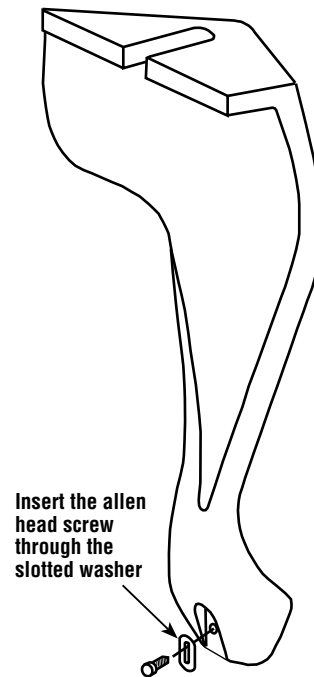

Figure 5
8. If it is necessary to level, secure or ground your stove, use the holes in the bottom of the leg for those applications. To level the stove on Olympic cast legs, locate the front leg that is not touching the hearth pad. Insert the allen head screw through the slotted washer (supplied with the legs) and into the threaded hole in the bottom of the leg. See **Figure 5**. Push the slotted washer down until it touches the hearth pad and then tighten the screw into the leg. Should any other leg not be resting on the hearth pad, install a washer and screw in that leg as well.